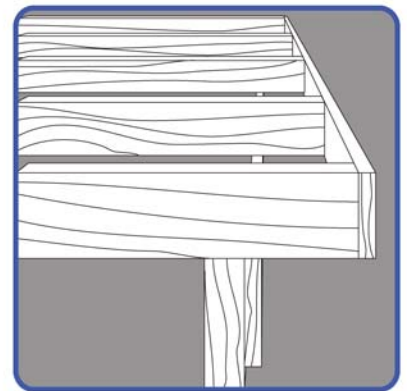

Figure 1
Step 1. Build the deck sub-structure. Build the deck sub-structure using traditional load-bearing materials, such as pressure treated lumber or steel (see Figure 1). **NEVER** use **Quadra** Decking System materials for joists, posts, beams, studs,